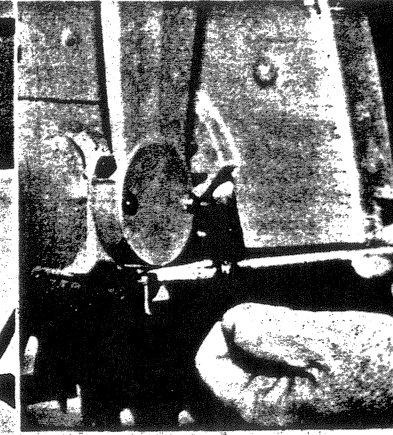

Figure 16
10. ADJUSTING CROSS-CUT TRAVEL PARALLEL TO ARM TRACKS (figure 16)